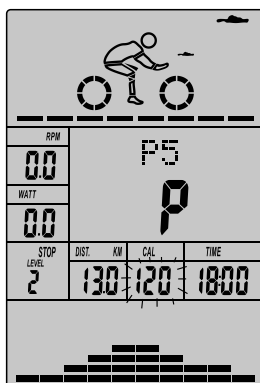

Fig 28
- The calories display will flash, and then press (or rotate) button UP/DOWN to set up the desired calories to be consumed. Press ENTER to confirm the value. (Fig 28)